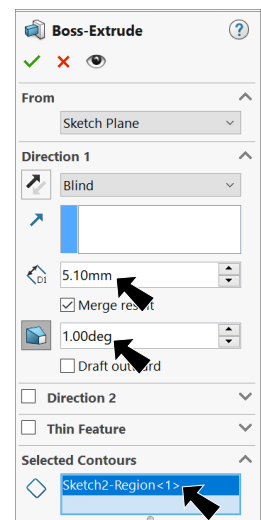

Fig. 11
- under Direction 1, **Fig. 11**